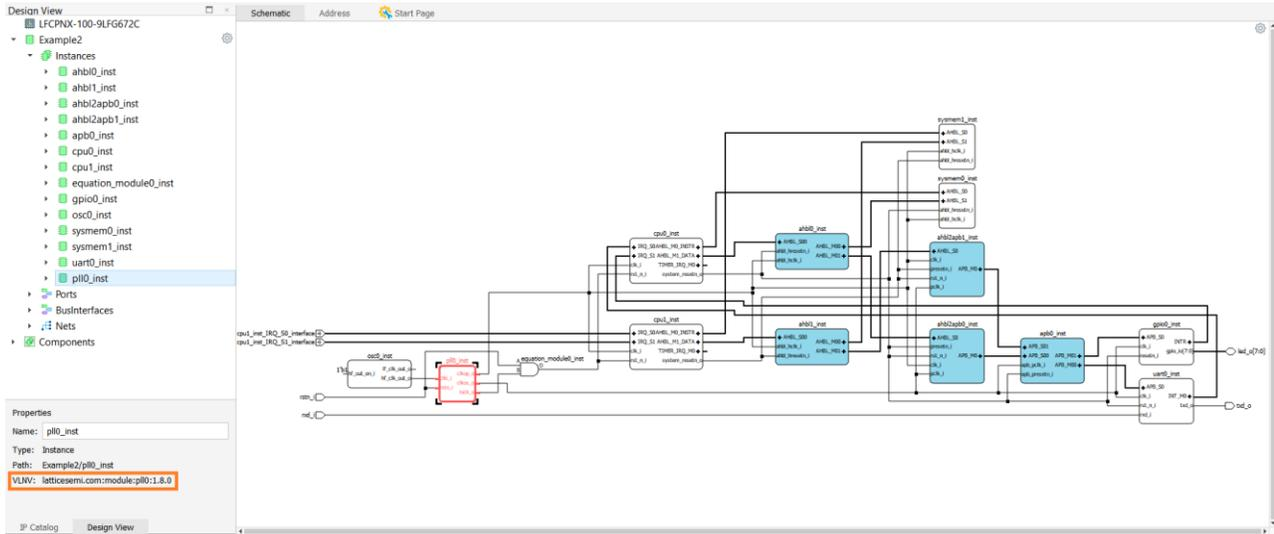

Figure 2.135. Check IP Name in Design View
- Click on an IP instance in **Schematic view**. The **Design View** shows the corresponding information of this IP. Check VLNV for this IP name (Figure 2.135). Go to **IP Catalog** and click on before this IP to show the **IP Information**. In the **Device Supported** area, all the devices this IP supports are listed (Figure 2.136). Make sure